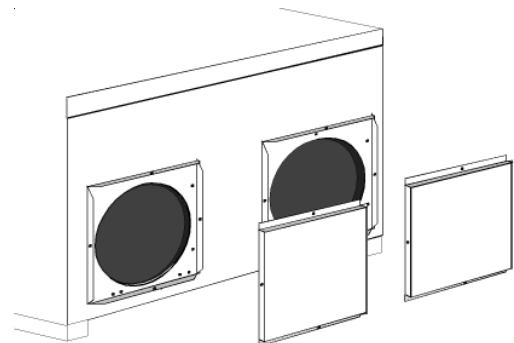

Figure 10 - Horizontal Duct Cover Alignment
6. Align the horizontal duct covers (Figure 10) over the flange brackets just installed and secure with screws included in the Horizontal Duct Cover kit.